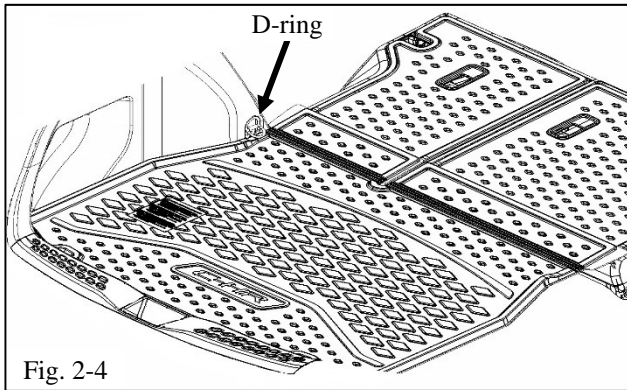

Fig. 2-4
- (f)  Place the main cargo tray in the cargo area, flush to the rear cargo panel of the vehicle, with the logo facing up (Fig. 2-4).